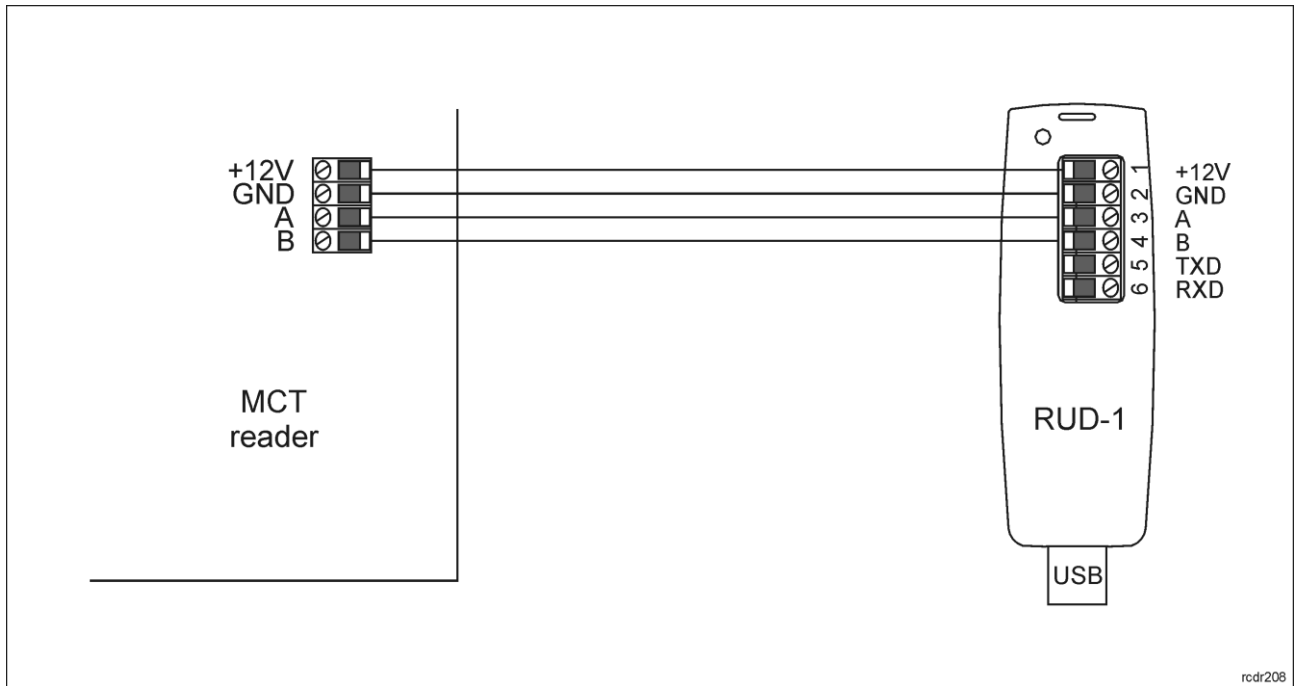

Fig. 9 Connection to RUD-1 interface (low level configuration)
1. Connect the device to RUD-1 interface (fig. 9) and connect the RUD-1 to computer's USB port.
The update requires connection of reader to computer with RUD-1 interface (fig. 9) and starting RogerISP software. The latest firmware file is available at [www.roger.pl](http://www.roger.pl).
1. Connect the reader to RUD-1 interface (fig. 9) and connect the RUD-1 to computer's USB port.